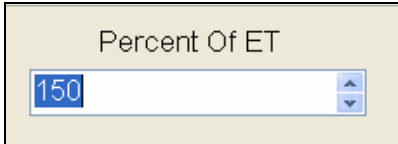

Figure 16.1.15A
- Adjust the **Percent of ET** using the **UP** and **DOWN** arrows to the right of the **Percent of ET** box (Figure 16.1.15A).